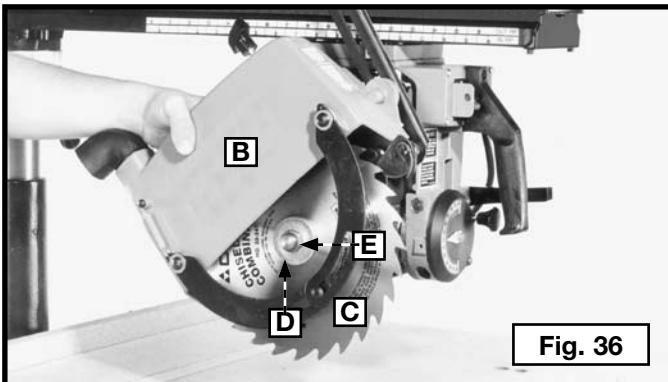

Fig. 36
3. Attach the outside (thin) blade flange (D) Fig. 36 to the recessed side of the flange (D) facing in. Place the arbor nut (E) on the arbor shaft.
**NOTE:** The arbor nut (E) Fig. 36 has a left-hand thread.